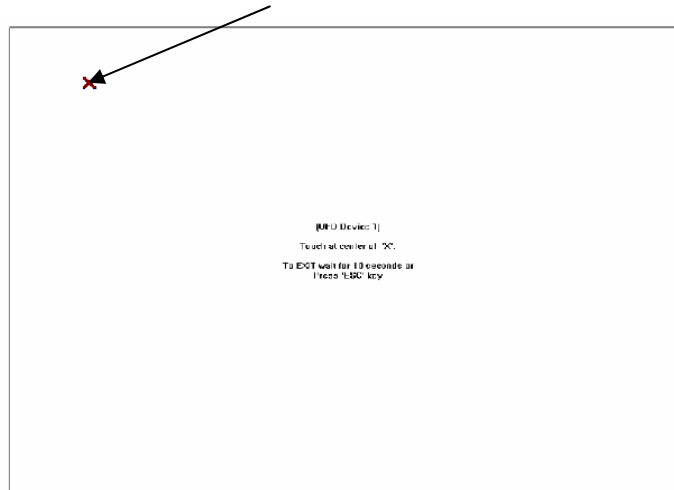

Figure 6
17. Make contact with the “X” markings on the screen. Be sure your stylus or finger is centered on each “X” point See Figure 6.